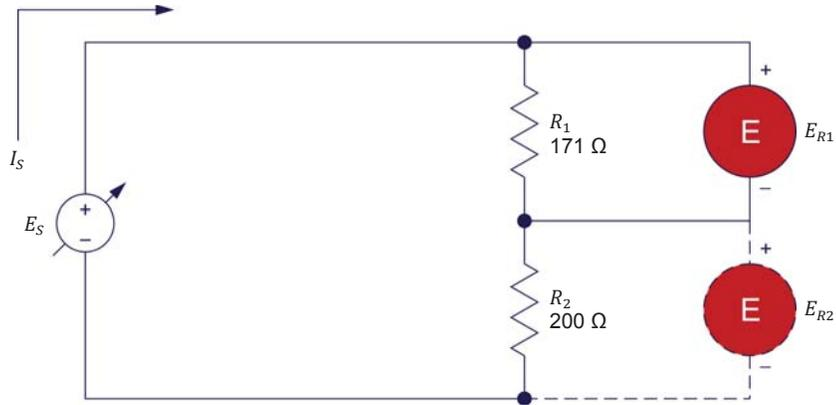

Figure 26. Measuring power in a circuit with resistors in series.
12. Set up the circuit shown in Figure 26. To obtain the resistor arrangement of Figure 26, make the necessary connection(s) and switch settings on the Resistive Load module.
The voltage across resistor  $R_2$  will be measured separately in another step. For this reason, the voltmeter symbol is dashed for  $E_{R2}$  in Figure 26.
15. Disconnect the voltmeter from resistor  $R_1$  and connect it across resistor  $R_2$ , as shown in Figure 26.